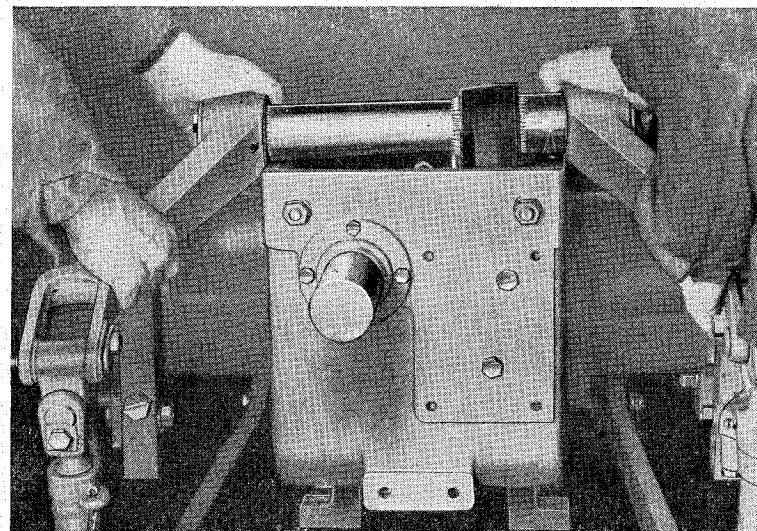

Fig. 63.
8. Remove from the housing the shaft complete with lifting arms (see Fig. 63).